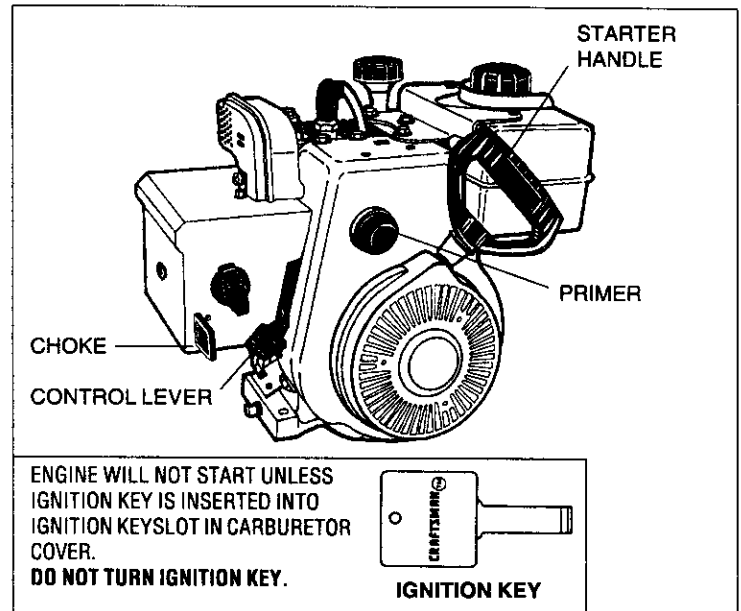

Figure 2
C. Insert ignition key into ignition keyslot in carburetor cover (see Figures 2 and 3).
- A. Move engine CONTROL LEVER (see Figure 2) to "FAST".
B. Move engine CHOKE (see Figure 2) to "FULL".
C. Push PRIMER three (3) times (see Figure 2). Always cover vent hole when pushing primer.
- D. Grasp STARTER HANDLE (see Figure 2), and pull rope out, slowly, until it pulls slightly harder. Let rope rewind slowly. Then pull rope with a rapid full arm stroke. Let rope rewind SLOWLY. Do not let STARTER HANDLE snap back against starter.
- Remove ignition key (see Figure 2 or 3) from carburetor cover.